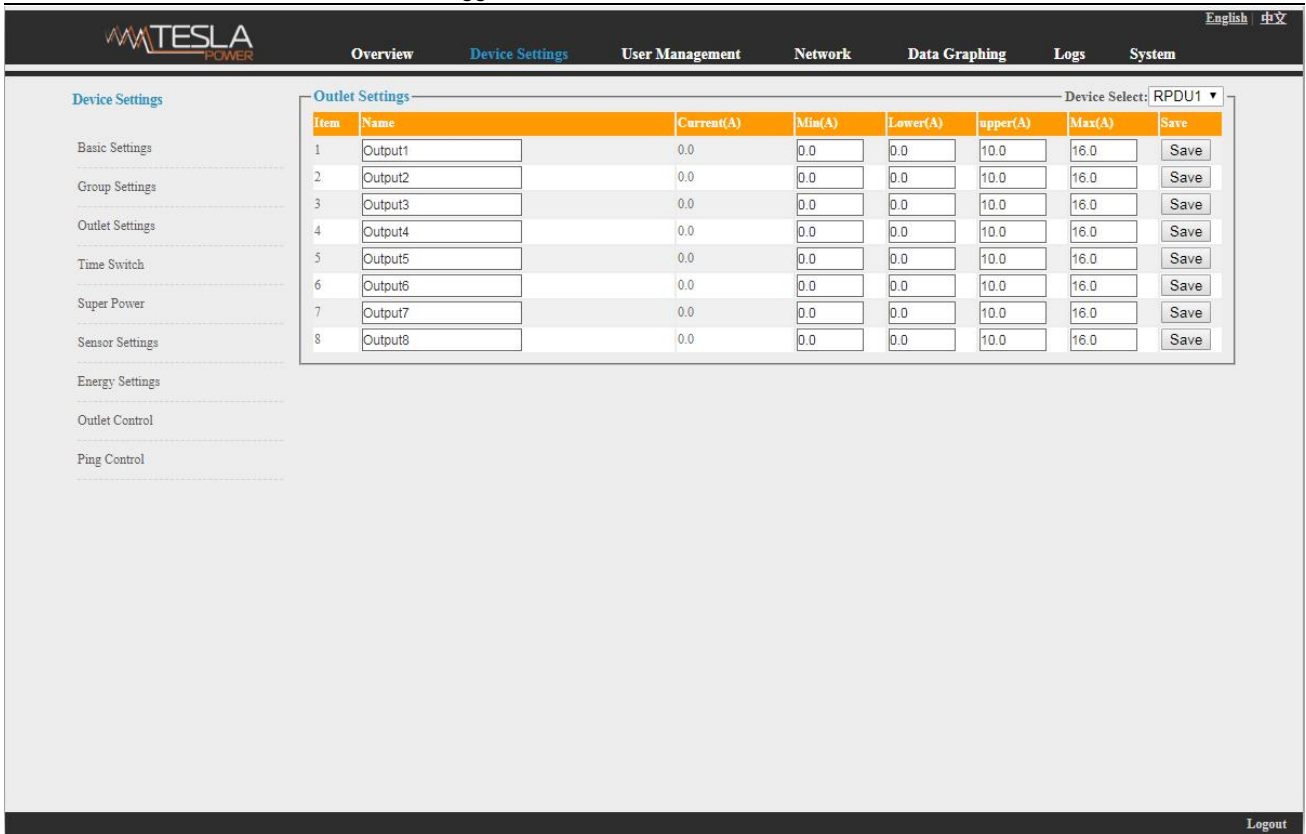

Figure 1-3-2
When the unitive power on/off delay was disabled, the output will power on/off sequentially according to the individual internal, please refer to the outlet settings function on page 12(Figure 1-3-2)
C. Outlet settings: Click Outlet setting from Device management to enter the following figure 1-3-2